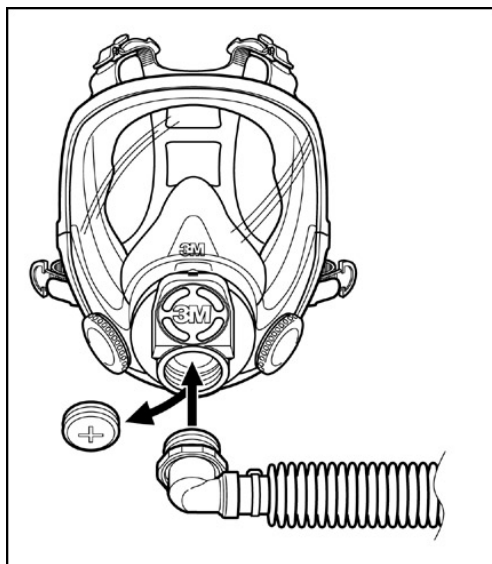

Fig: 7
5. Screw GVP-123 breathing tube elbow adapter into the center port of the 6884 adapter (Fig. 7).